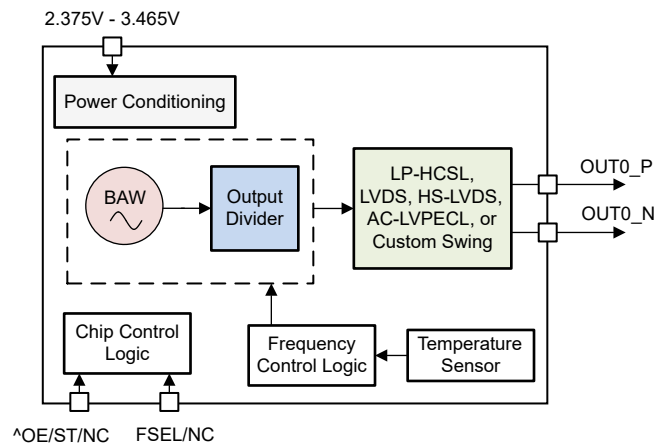

Figure 2-1. LMK6Bx Simplified Block Diagram
The **LMK6Bx BAW oscillator** is a fixed-frequency, factory-programmed, ultra-low jitter oscillator with AC-LVPECL, LVDS, HS-LVDS, Custom Swing (50MHz to 2500MHz), and LP-HCSL (50MHz to 625MHz) differential output type options and supports 2.5V and 3.3V. Both the HS-LVDS and Custom Swing output types swing can be programmed in 50mVppd steps from 350mVppd up to 2Vppd for 3.3V supply and for 2.5V supply up to 1.5Vppd for Custom Swing and 1.6Vppd for LVDS. The LMK6Bx also has two function pins. Pin 1 has output enable (OE) or standby (ST) control and pin 2 offers an optional output frequency selection (FSEL), where the frequency specified in the OPN can be divided by 2 or 4. **Figure 2-1** shows a block diagram of the LMK6Bx.